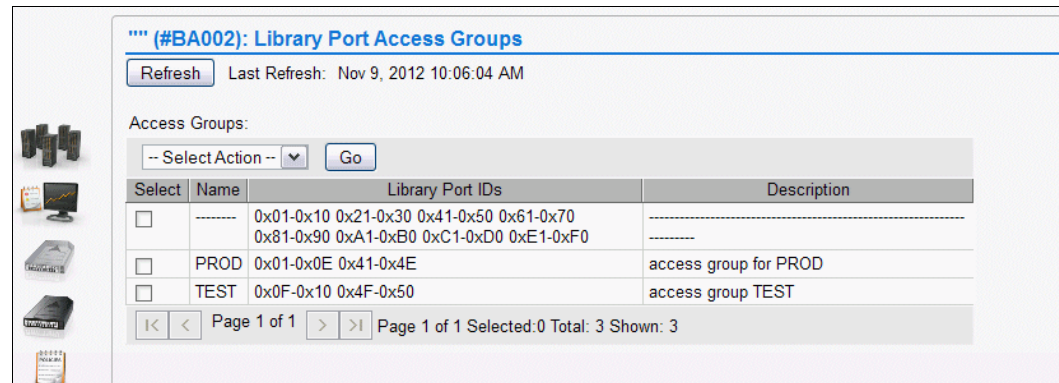

Figure I-14 Summary display of access groups
5. Check to see that each access group's ranges are not overlapping, as shown in Figure I-14.